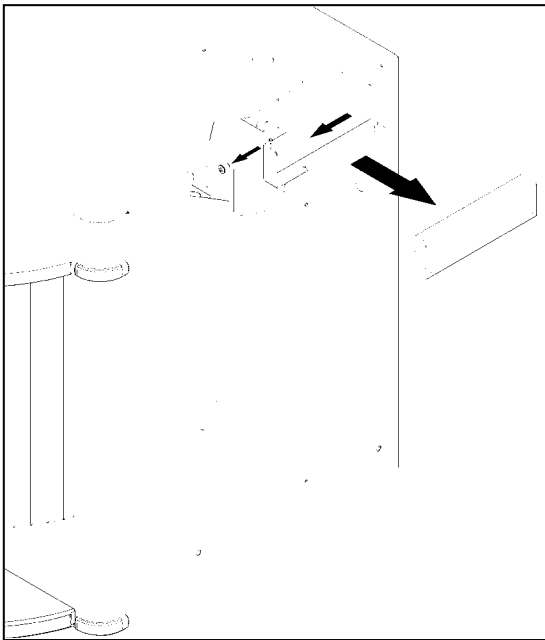

Figure A1 – Remove the handle plate and the handle.
2. Remove the screw that secures a metal plate behind the handle (*figure A1*). The screw is located at the top right corner of the panel behind the dispenser carriage.
3. Remove the handle plate located behind the handle (*figure A1*).
4. From the rear of the machine, press the two clips at the bottom of the handle (*figure A1*). This will free the handle, which can then be removed.